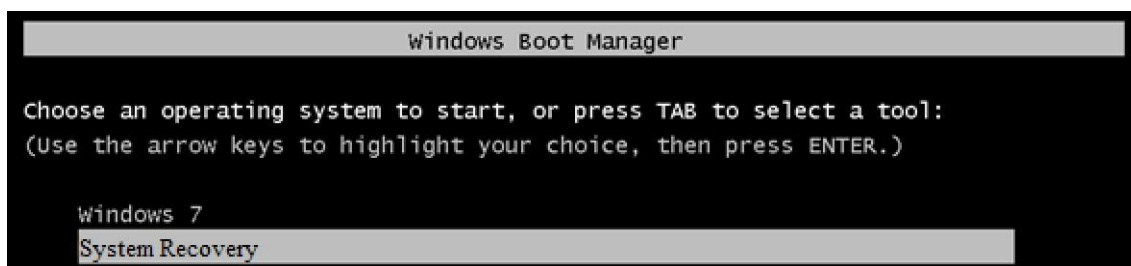

Fig. 3.9 Start-up Screen
- 2) Press the [Power/Standby] key in the lower left corner of the front panel of the analyzer. When the indicator of the external keyboard is ON and the screen shown in Fig. 3.9 appears, immediately press [↑] and [↓], select "System Recovery", and press [Enter] of the keyboard to automatically recover the system.